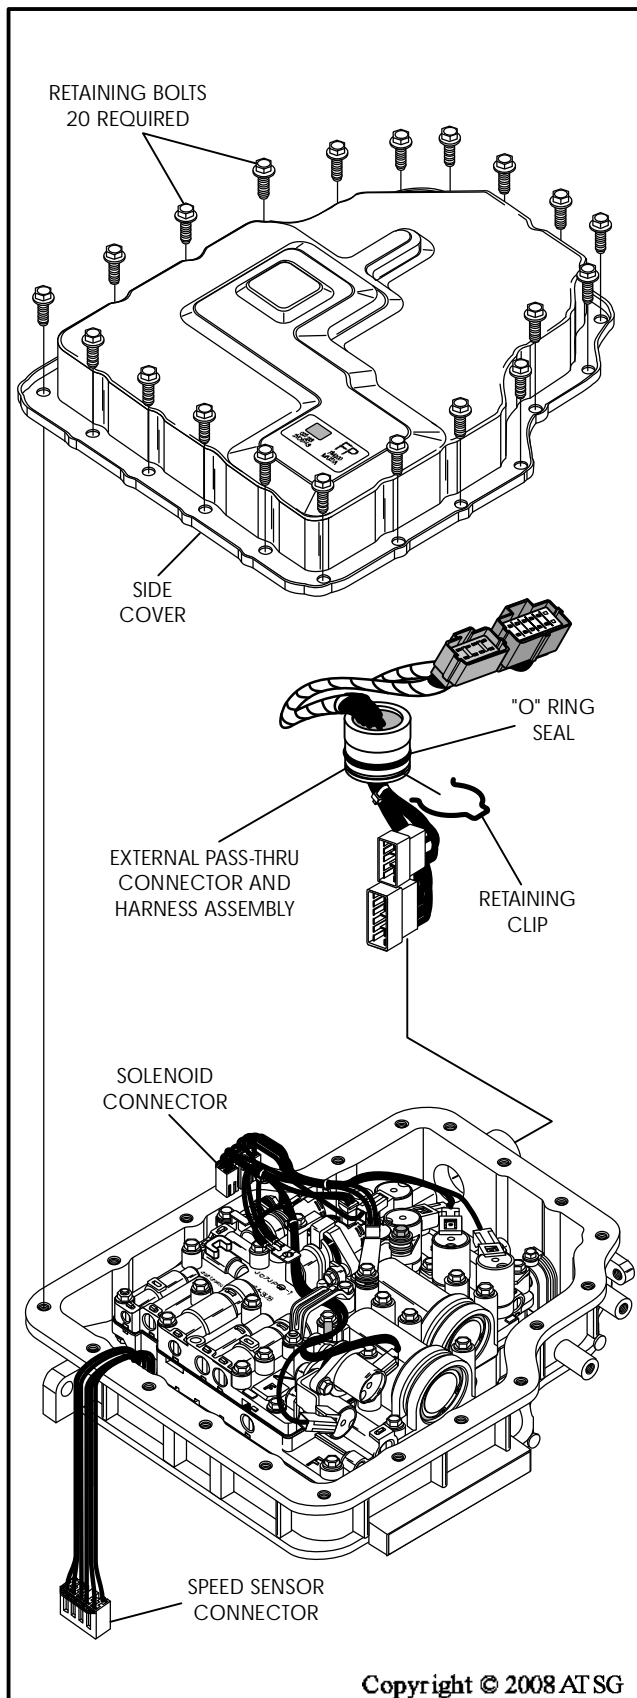

Figure 35
8. Remove the twenty side cover retaining bolts, as shown in Figure 35, and remove side cover.
9. Disconnect both inside connectors and lay the speed sensor connector wires over the pan rail, as shown in Figure 35.
10. Remove the retaining clip from the external "pass-thru" connector and harness assembly, as shown in Figure 35.
11. Remove the external harness and connector assembly by maneuvering through the hole in case, as shown in Figure 35.